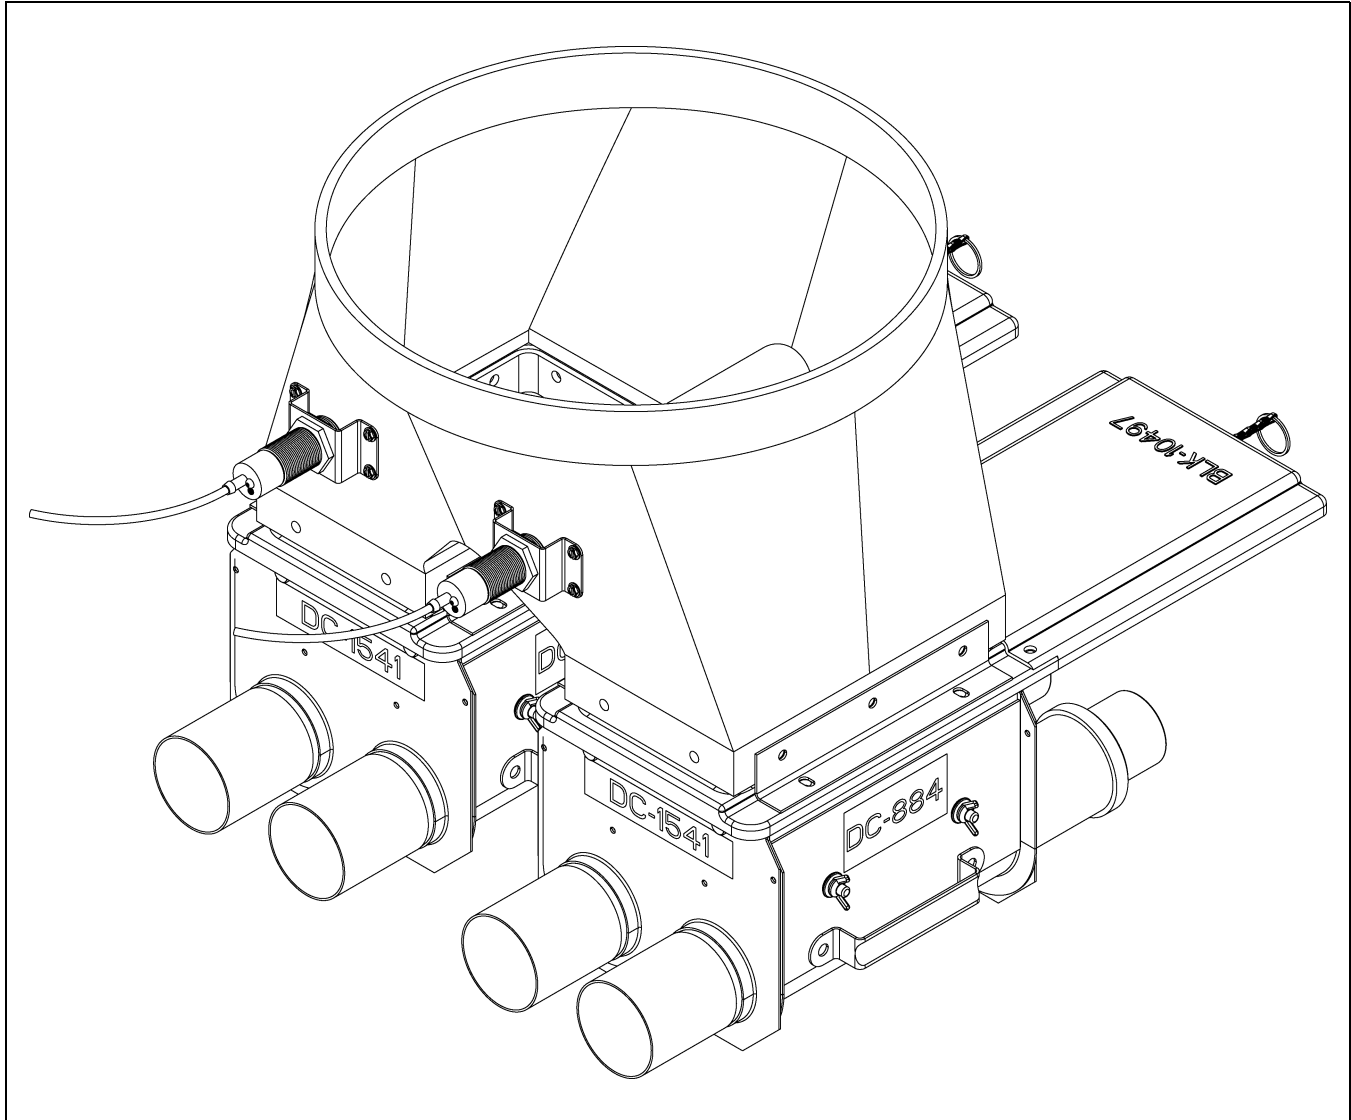

Figure 5C Location of Proximity Switches for Double Boot
1. Use two (2) proximity switches, one on each fork of the boot.
3. Attach the Proximity Switch and Mounting Bracket Kits (FLX-5207) to the plastic boot as shown in Figure 5C, using four (4) #10-16 HWH SDS screws provided in the kits.